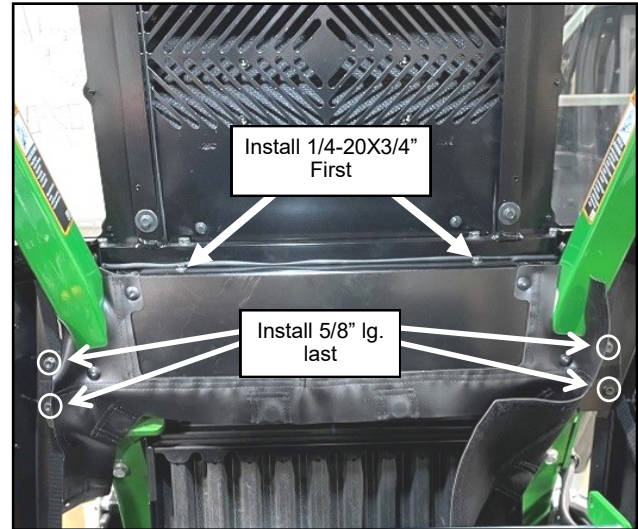

Fig. 2.22 (Install Rear Panel Assembly)
2.22 Place the rear panel assembly onto the ROPS brackets applying pressure towards the A/C Unit. Install the top horizontal screws first and then the (4) screws in two rear fillers. Attach to the previously installed Velcro. See Figure 2.22.